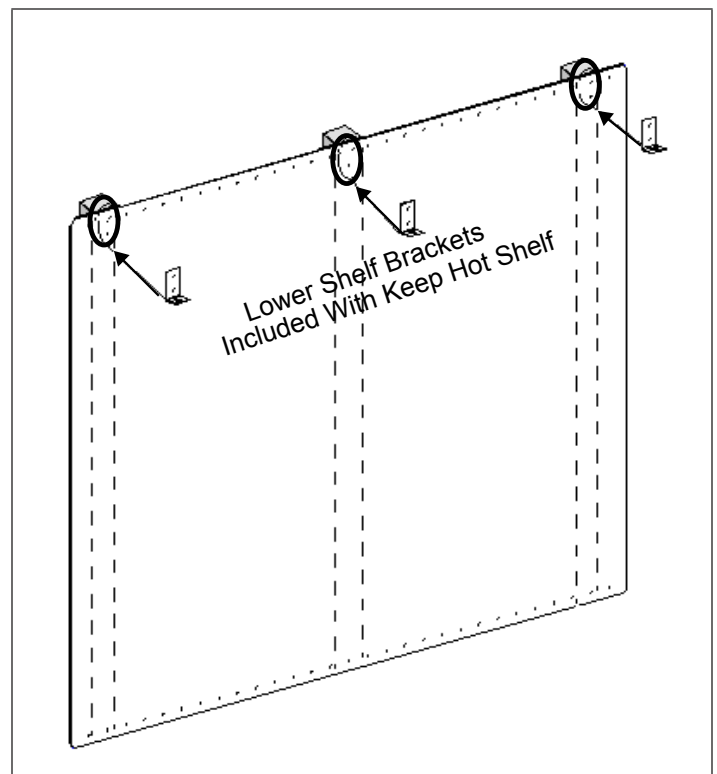

Figure 18: Backsplash with a Keep Hot Shelf
3. At the locations indicated in Figure 18, mount the lower shelf brackets included with the Keep Hot Shelf through the Backsplash and into the wall studs.